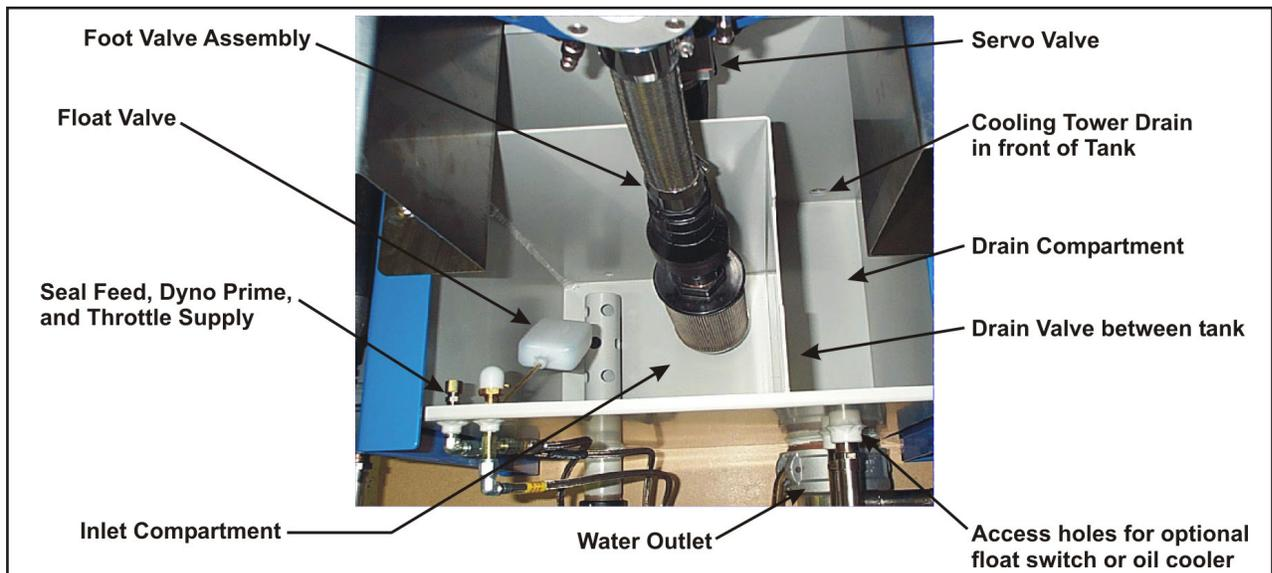

Figure 4.2 Dynamometer Stand Sump Tank
3. Slide the sump tank into place under the absorber (Figure 4.2). Position it so the servo valve and absorber intake are above the respective compartments. Ensure the cross drain valve inside the tank between the chambers is closed.
7. Locate a small (1/4") black nylon line on the absorber stand right-side channel with a hose fitting on the end. This is the supply line for the dyno prime, absorber seal feed, and hydraulic throttle. Attach the hose to the supply fitting on the rear left corner of the tank (Figure 4.2). The other nylon line without a fitting is the throttle drain line. It is placed so water will drain into the drain compartment.